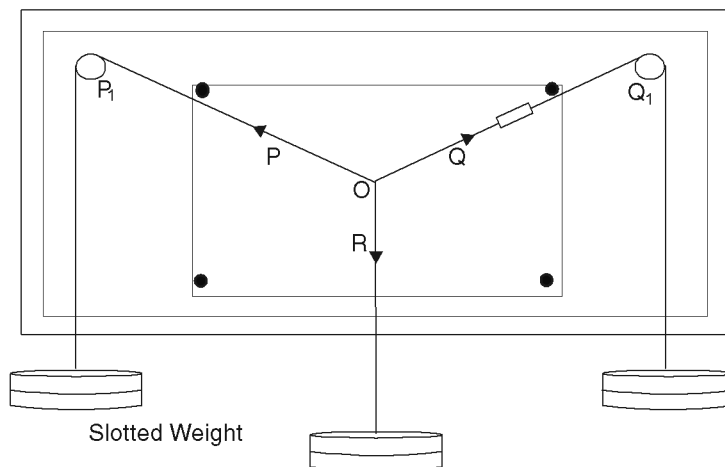

Fig. 2.20: Gravesand's apparatus
1. Board of parallelogram apparatus (or Gravesand's apparatus) shown in (Fig. 2.20) adjust plumbline to keep vertical. Pulleys P_1 and Q_1 should be frictionless use oil if required.